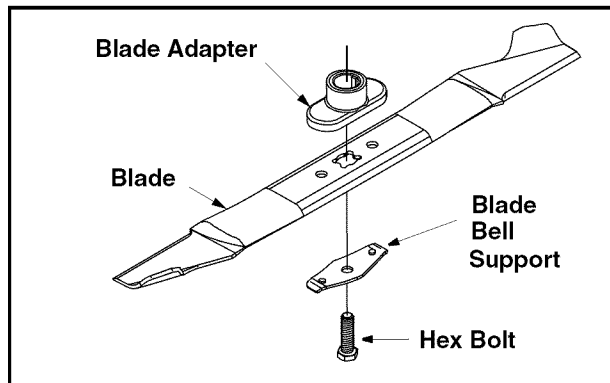

Figure 12
- Remove the bolt and blade support which hold the blade and adapter to the engine crankshaft. See Figure 12. Remove the blade and adapter from the crankshaft.
- Install the blade adapter on the crankshaft with the "star" away from the engine. Refer to Figure 12. Place the blade with the side marked bottom (or with part number) facing away from the adapter.